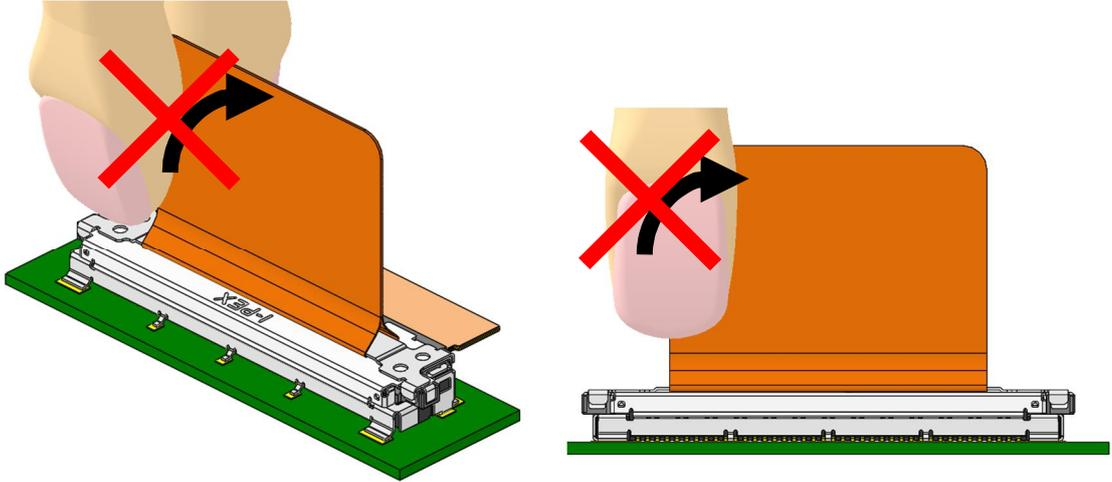

Fig.26 Do not pull one side of the PULL TAPE
- Do not pull one side of the PULL TAPE and rotate it while unmating. [Fig. 26]